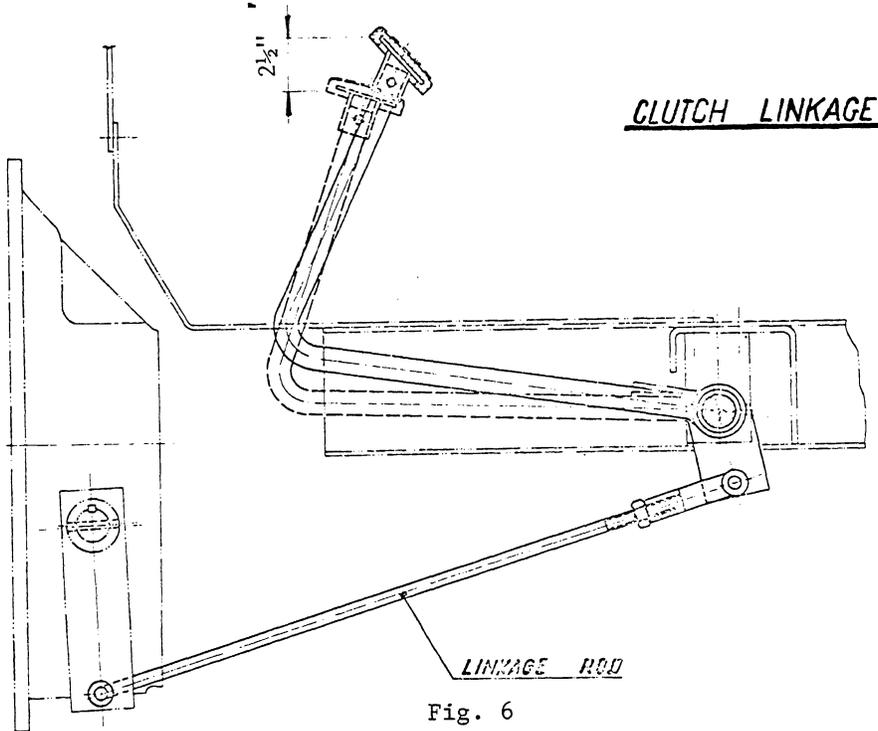

Fig. 6
3. Proper "free pedal" travel is approximately $2\frac{1}{2}$ " This results in $\frac{1}{4}$ " clearance between the release bearing and the clutch release levers. See Fig. 6.